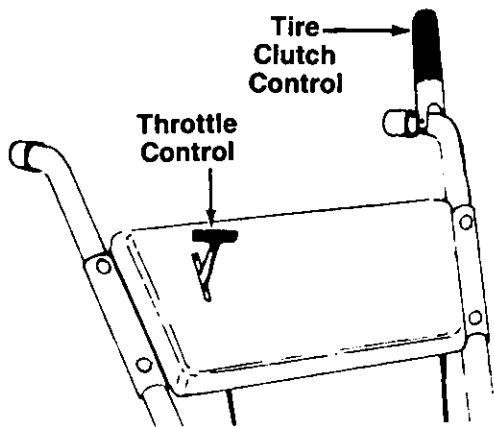
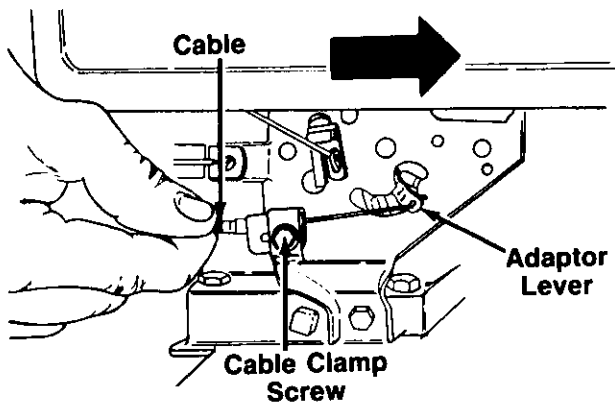

FIGURE 20.
FIGURE 27.
The throttle control lever is located on the handle panel. It controls the engine speed and stops the engine. See figure 20.
The clutch control lever is located on the left handle. See figure 20. Squeezing the lever against the handle engages the tire drive. Release the lever to stop the tires from turning.
2. Move the throttle control lever forward to FAST or START position. Make certain clutch lever is released. See figure 20.
1. Move throttle control lever to STOP position. See figure 20.
1. Loosen the cable clamp screw. See figure 27.
2. With the throttle control in FAST position (see figure 20) and the cable connected to the adaptor lever, push the cable through the cable clamp in the direction shown in figure 27 until the adaptor lever is as far up as it will go.